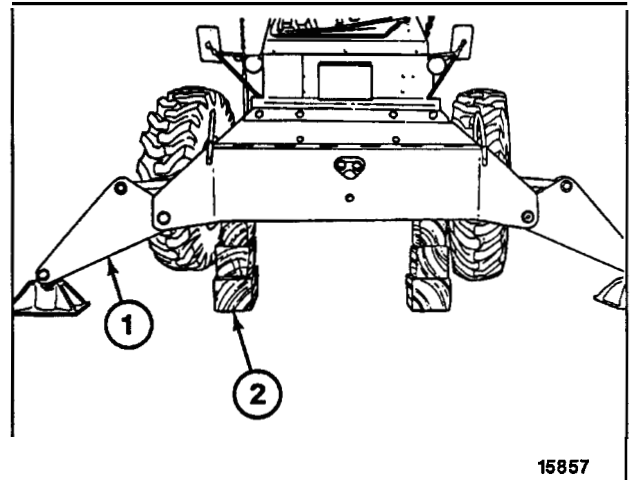

Figure 148
1. Fully extend front outriggers (1, Figure 148) in down position as far as possible. Place wooden blocking (2) under front outrigger frame as shown in Figure 148. Raise outriggers until frame is resting solidly on blocking. Outrigger pads must remain in contact with ground. Repeat this procedure for rear outrigger.